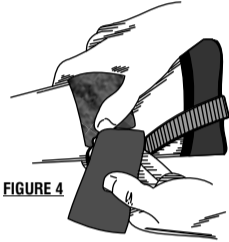

FIGURE 4
4. Center the butt of the stock in the 1" webbing loop. Press the end of the loop (soft) material down toward and under the hook (stiff) material. **Figure 4.** This is the beginning of the very important closure of the sling attachment device (hook and loop material). There must not be any slack or looseness in the area of the 1" webbing and the hook/loop closure.